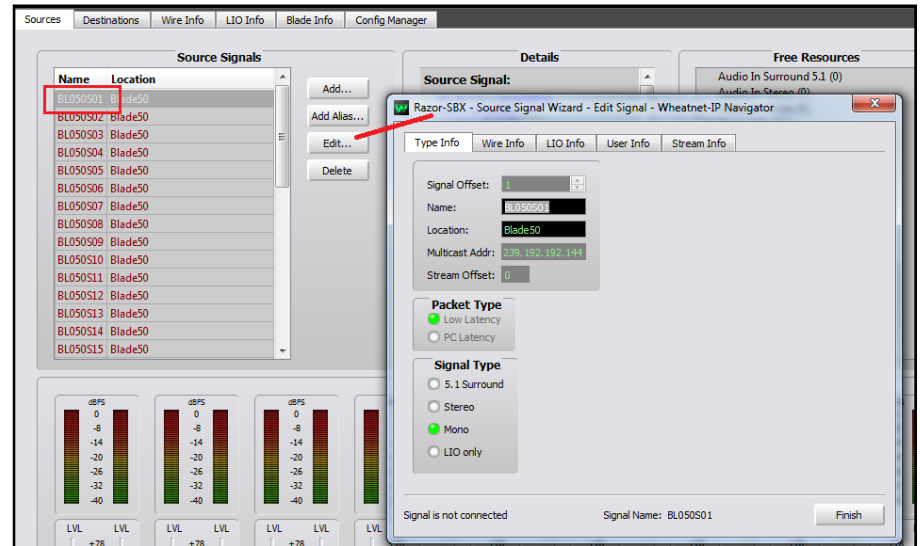
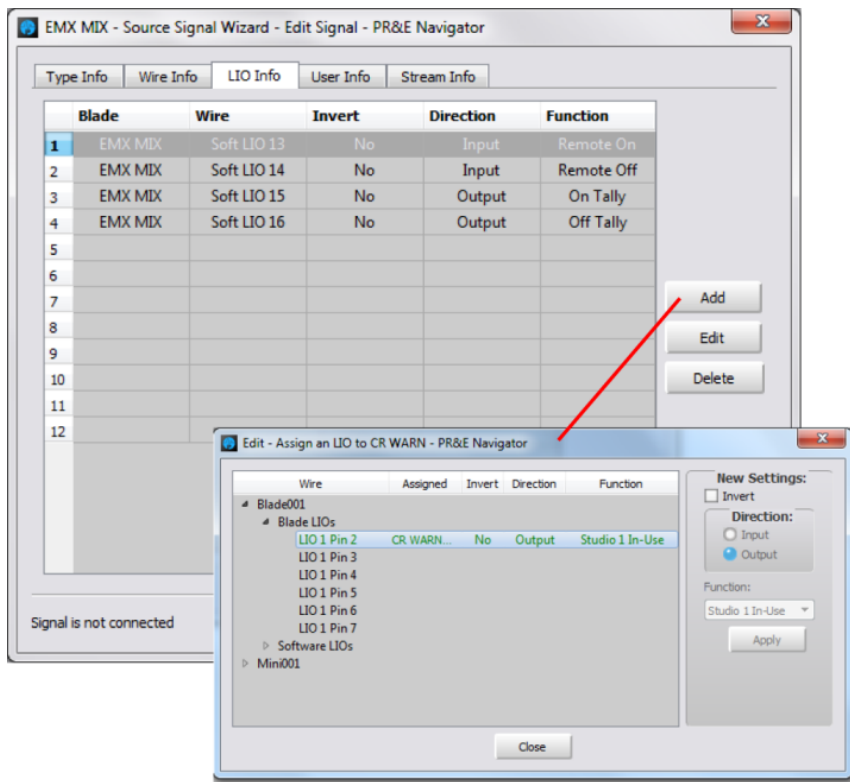

Figure 3-14 Edit Signal Window
Figure 3-17 Logic Assignment tab
The **Source Signals** and **Destination Signals** sections have four buttons: *Add...*; *Add Alias...*; *Edit...*; and *Delete*. Clicking *Add* opens the Edit Signal window (shown in Figure 3-14) so you can add a new signal. The other three buttons require one to first select a signal then click *Edit...* to edit that signal; click *Delete* to delete the selected signal to free up resources; or click *Add Alias...* to create a new signal based upon the selected signal.
Clicking the *Edit* button opens the Edit Signal window shown in Figure 3-14, where the signal name and format (*Signal Type*) can be edited and where LIO or SLIO commands can be associated with that audio signal. The steps to accomplish common actions like renaming signals, changing the signal type, and assigning logic, are covered in their own sections over the next several pages.
These default names can be replaced with any name of up to eight characters. Most users use all upper case but both upper and lower case letters are supported and are shown that way in the channel displays. Input signals are edited using the **Sources tab** and output signals are edited on the **Destinations tab**. To edit the name, click on the name in the *Source Signals* (or *Destination Signals*) section of the tab then type in a new name of up to eight characters. You can alternately click once on the name then click *Edit...* to open the *Edit Signal* window to edit the name, which is automatically highlighted when the window opens, as shown in Figure 3-14 on the previous page.
Click on BL050S01 and click *Edit...* to open the Edit Signal window (Figure 3-14 on the previous page). Change the **Signal Type** selection from Mono to Stereo. You can then edit the name to STEREO 1 to indicate that Mic/Line In 1 and Mic/Line In 2 are now a stereo input pair. If you know what stereo device will connect to those inputs enter that device name in the *Name* entry box. Click *Finish* to close the Edit Signal window.
When LIO or SLIO logic commands are associated with an audio input signal the same *Edit Signal* window used to name the audio signal and set its format (surround/stereo/mono), is also used to assign logic commands. For example, if the first Stagebox input (default name: BLO50S01) needs to have logic assigned to it, select/highlight that audio input name in the Source Signals list then click *Edit* to open the Edit Signal window (the process shown in Figure 3-14 on page 24). Select the **LIO Info** tab (Figure 3-17). Any logic settings already set for that audio signal will be listed. To add a new logic signal, click *Add*. To edit a logic entry, click/highlight a signal row then click *Edit*, or click *Delete* to remove that logic entry.
Figure 3-17 shows the typical settings used with a Talent Station (TS). It uses two logic signals to carry Remote On and Remote Off commands from the TS to a console channel, and two logic return signals to carry the On and Off Tally logic back to the TS to light up the On and Off buttons. These are assigned to Soft LIOs since the TS is a networked device. Figure 3-17 also shows the **Assign an LIO** window, opened by clicking *Add*, where a new LIO or SLIO command can be associated with that audio signal.
Click the *LIO Info* tab to view the **Logic Assignments** window then click *Add...* to open the **Assign LIO** window (Figure 3-17). To add output logic, select Output as the *Direction:* then select a *Function:* from the drop down list of selections. To create a STUDIO WARNING command for Studio 1, select *Studio 1 In-Use*. For a Studio 2 Hot Studio light, select *Studio 2 In-Use*. Up to eight studios or areas in the facility which might need Hot Studio Warning lights can be assigned. Note the LIO connector number and pin number for each signal you assign since that identifies which pin to connect to on the LOGIC 1 or LOGIC 2 connector on that Blade (or to the single LOGIC connector on a Stagebox). Click *Apply* to set that logic command. To control multiple hot studio lights, you would repeat this process to add additional logic commands to that same logic-only Destination. Once you’ve finished assigning logic commands click *Close*, to close the Assign LIO window, then *Finish* to close the Edit Signal window.
In the example in Figure 3-17, when a Studio 1 mic channel is on-air, there will be a contact closure between pin 2 (STUDIO 1 IN-USE) and pin 1 (ground) on logic jack LIO 1. With a second LIO assigned to pin 3 using the STUDIO 2 IN-USE, when a Studio 2 mic channel is on-air, there will be a contact closure between pin 3 (STUDIO 2 IN-USE) and pin 1 (ground).